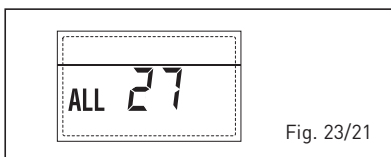

Fig. 23/21
- **ANOMALÍA COHERENCIA ENTRADA (S3) SÓLO POR SISTEMA 7 "ALL 28" (fig. 23/22)**